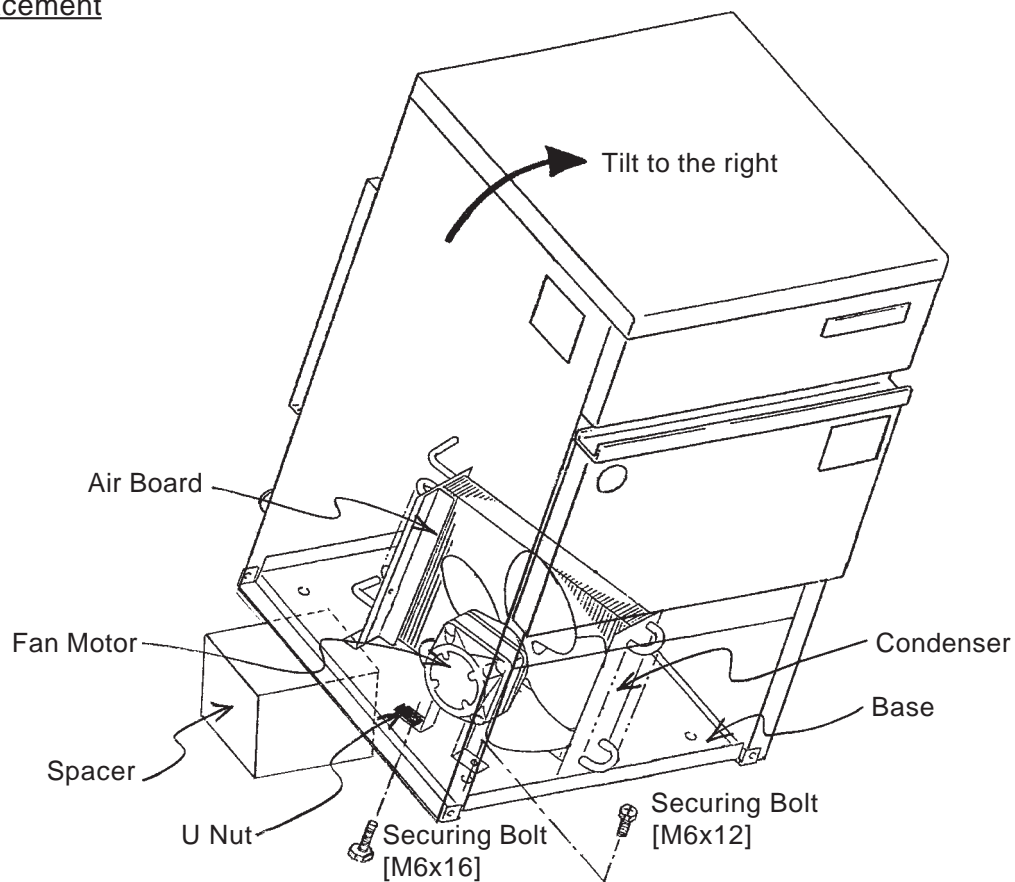

Fig. 37
3. The securing bolts for the Fan Motor Brackets are different in length. Do not mix them up. (See Fig. 37)